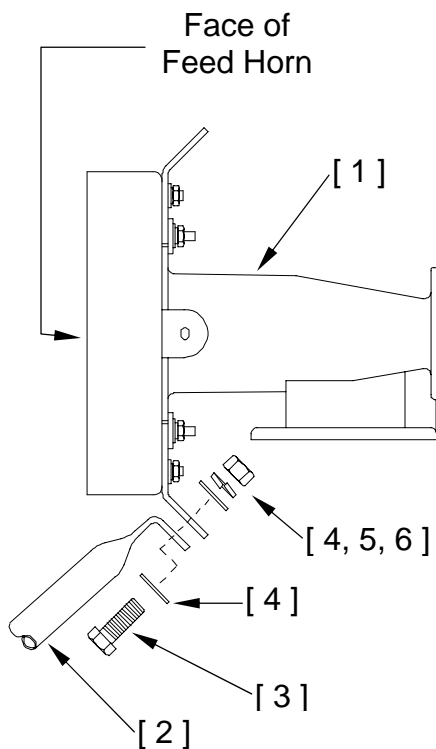
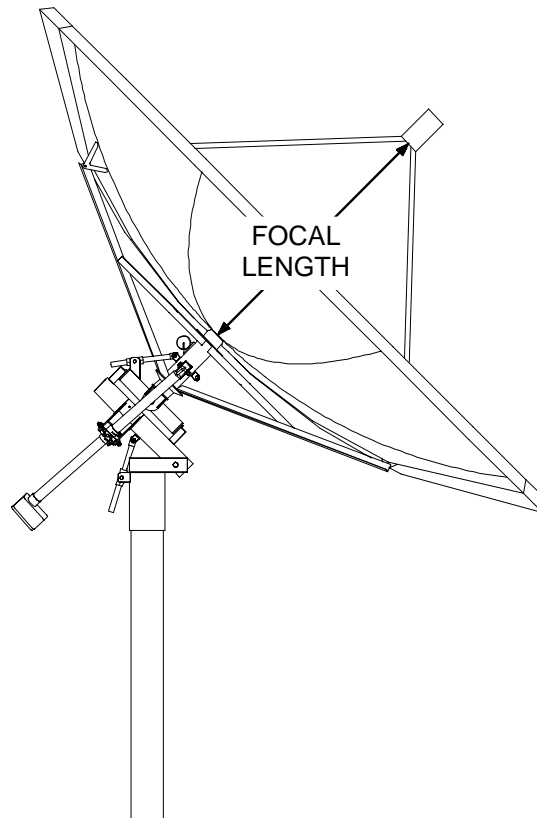

FIGURE 5.
FIGURE 8.
- FOCAL LENGTH** - As shown in figures 5 thru 7, attach the feed horn assembly to the four feed rods with the same 3/8" hardware as above. (For ku-band single pol only, insert the feed cover tab (item #7) between the feed horn and the 3/8" nut). Tighten the four bolts securely at this time. Check the focal length by measuring from the face of the feed horn to the reflector cover plate as shown in figure 8. If the focal length is incorrect, adjust the feed clevises in or out at the reflector surface as needed. Be sure that the clevises are adjusted equally. When the focal length is correct, tighten all feed support and clevis hardware securely. The focal lengths are: 46-7/8" for the 3.4M and 54" for the 3.7M. The F/D ratios are: .35 for the 3.4M, and .37 for the 3.7M.